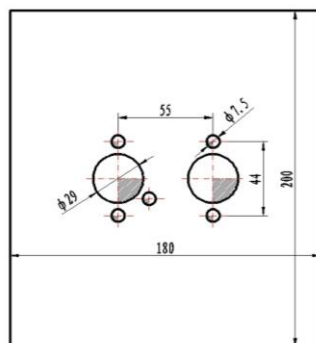

Fig 10
4.2.4 If the sickness of the installation panel $< 1.5\text{mm}$ a mounting plate may need. Between mounting plate and the car body must also be sealed (use glass glue (Fig.10)).